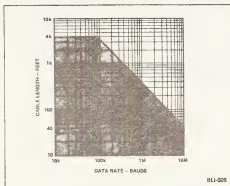

Figure 9. Data Rate Versus Cable Length for Balanced, Twisted Pair Cable (From EIA RS-422).
dard RS-422 conducted their tests with 24 gauge twisted pair wire. The resulting length vs. data rate, is published as a guideline in RS-422 (Figure 9). This shows two important results: (1) Unmodulated baseband (NRZ) signalling is not recommended at distances greater than 4000 feet; (2) At data